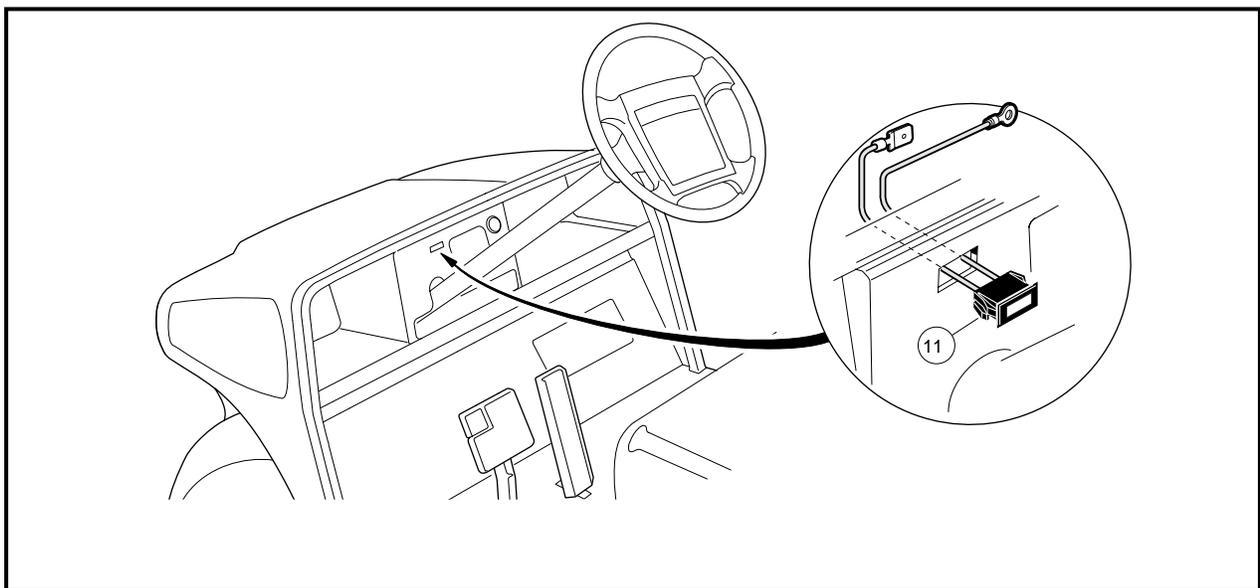

Figure 12-16 Battery Warning Light
4. Depress the two retaining tabs (11) and remove the light from the center dash (**Figure 12-16, Page 12-22**).